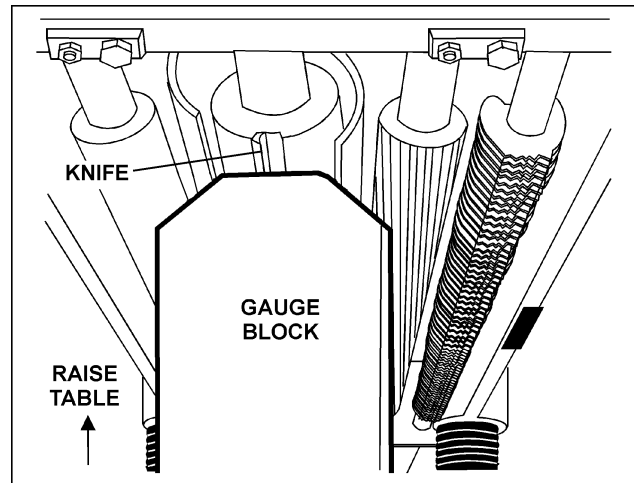

Fig. 20
2. Place the gauge block (Fig. 20) on the work table directly under the edge of a knife as shown. Make slight contact with the knife edge by gently raising the table.